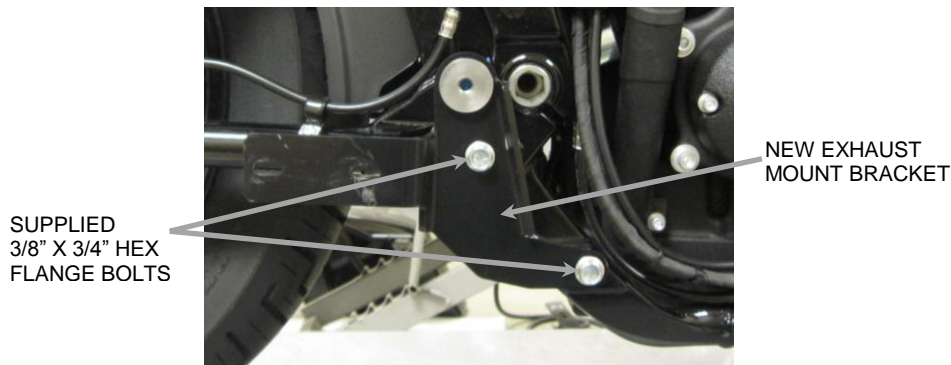

FIGURE 2
7. Install the new exhaust mount bracket using the supplied 3/8" x 3/4" hex flange bolts. Tighten the bolts to factory specifications. See **FIGURE 2**.